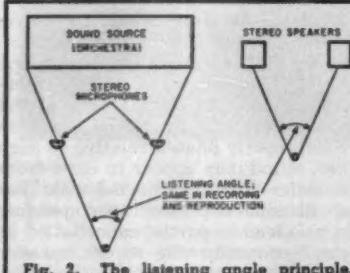

Fig. 2. The listening angle principle.
30. Listening Angle Principle: A principle sometimes employed in Left-Right Recording. The microphones at the left and right, as shown in Fig. 2, are spaced so that they are on the angle formed between a listener in a favorable seat at the original performance and approximately the extreme ends of the music source. It is intended that the same angle should be formed between the listener and his two speaker systems, more or less. Hence the microphones and the speakers, through a common angle, in effect attempt to put the listener in the